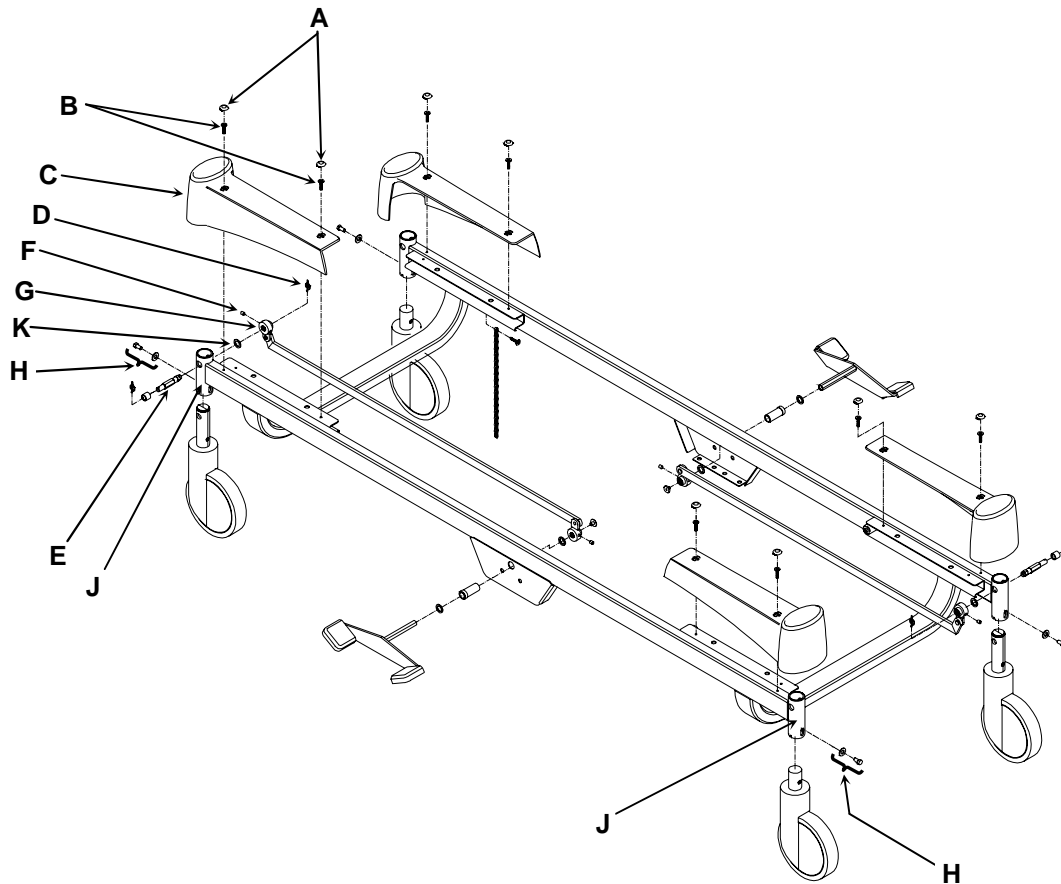

Figure 4.18
3. Using a 1/8" Allen key, remove the pressure screw (G, fig. 4.17, page 48) located on the right or left socket (H, fig. 4.18, page 48) of the 5th wheel activation lever (J, fig. 4.17, page 48).